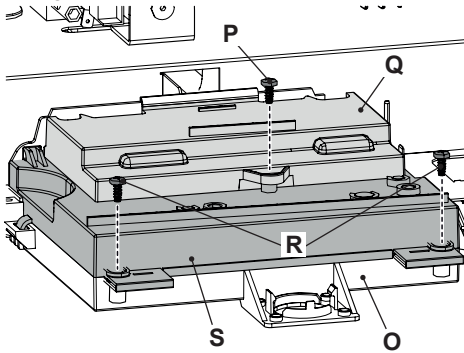

Figure 5.19
- Unscrew the screw **N** (Figure 5.18) and turn the control panel **O**, as shown in Figure 5.19.
- Unscrew the screw **P** and lift the cover **Q** to release the cables from the cable gland (Figure 5.19).
- Loosen the screws **R** and lift the cover **S** (Figure 5.19).